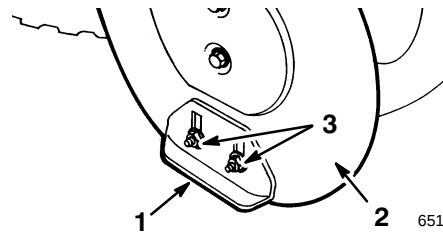

Figure 23
4. Loosen the four flange nuts that secure both skids to the auger side plates (Fig. 23) until the skids slide up and down easily.
8. Move the skids down to sit flat on the ground and tighten the four flange nuts that secure both skids to the auger side plates (Fig. 23).
2. Loosen the four flange nuts that secure both skids to the auger side plates (Fig. 23).